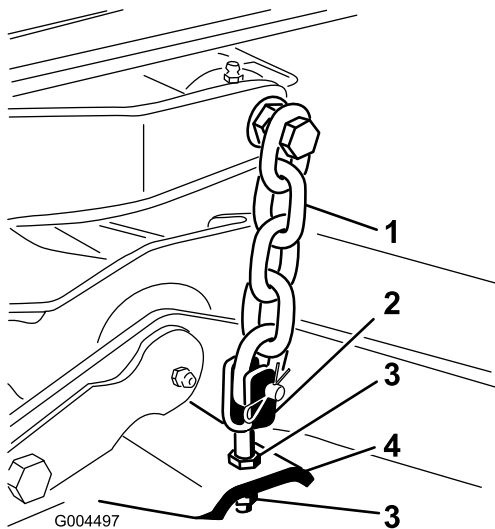

Figure 5
8. Adjust the jam nuts securing the mower yokes/chains to the mower until the mower is level (Figure 5).
7. Adjust the jam nuts securing the rear mower yokes/chains (Figure 5) to raise the rear of the mower so that the blade pitch is set to 8 to 11 mm (5/16 to 7/16 inch).